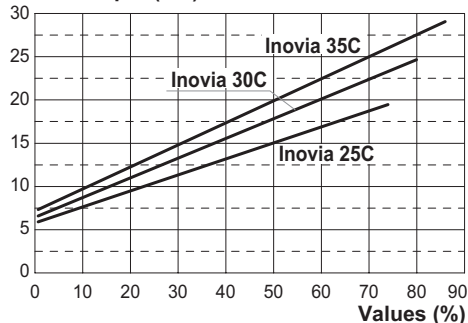
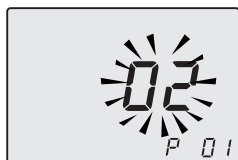
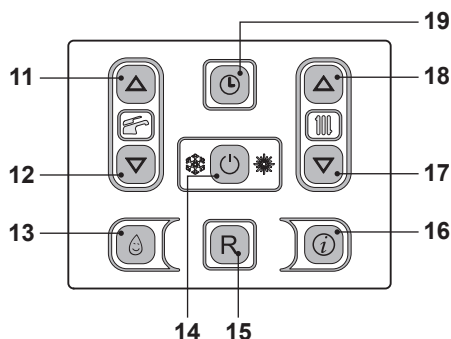

Fig. 7.45
Fig. 7.46
Fig. 7.47
Refer to Fig. 7.45 and determine the correct Value appertaining to the output required for the central heating requirement.
keys 14 - 17 - 18 (Fig. 7.47) for 10 seconds at the same time until the letters **P01** are displayed on the LCD display, indicating that "parameter 01" (Fig. 7.46) has been activated.
- It is possible to modify parameter using keys 11 or 12 (Fig. 7.47) (Refer to Fig. 7.45 and determine the correct Value appertaining to the output required for the central heating
- By pressing key 14 (Fig. 7.47) confirmation of the inserted value is obtained.
- Press keys 17 or 18 (Fig. 7.47) to exit without changing the value.